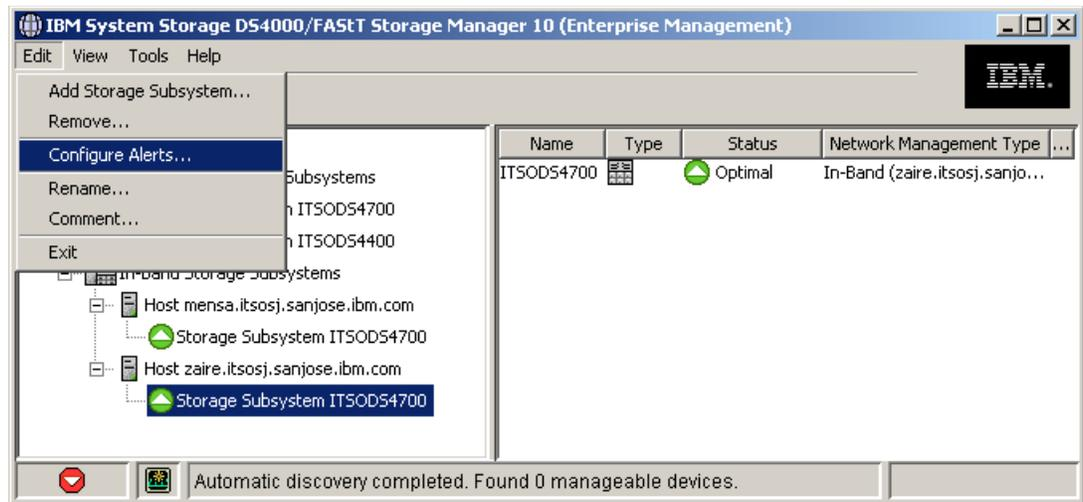

Figure 5-74 Selecting the Configure Alerts option
3. If you right-click your local system in the Enterprise Management window (at the top of the tree) and choose **Configure Alerts**, this applies to all storage systems listed in the Enterprise Management window. If you want to monitor only one subsystem, then click that particular one, and then right-click or select **Edit** → **Configure Alerts**, as shown in Figure 5-74.